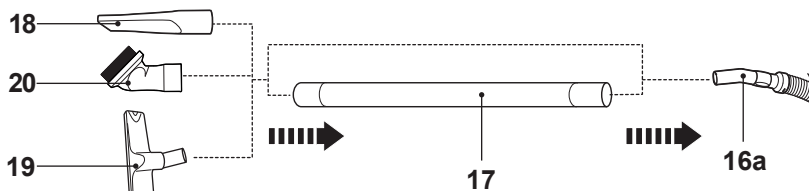

Fig. 16
- > Connect the extension tube(s) (17) and / or accessory (18, 19, 20) onto the hose handle (16a) if required (Fig. 16).